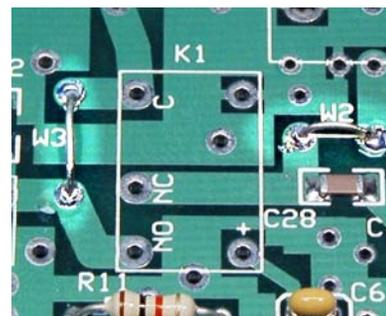

Figure 19. Installing W2 and W3 for split path (separate transmit and receive antenna) operation. Do NOT install Relay K1
- Use discarded leads to form jumpers across W2 and W3 near the outline for K1 as shown in Figure 19.
- Install transistor Q4 (IRF 620) in the space provided near diodes D7 and D8 as shown in Figure 19. **Be sure the leads are inserted until their shoulders are against the top of the board. If the leads are not inserted far enough, the tab on the top of the transistor may short against the top cover when the cabinet is assembled.** Trim the leads as short as possible on the bottom of the board.